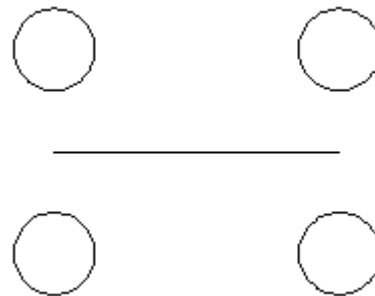
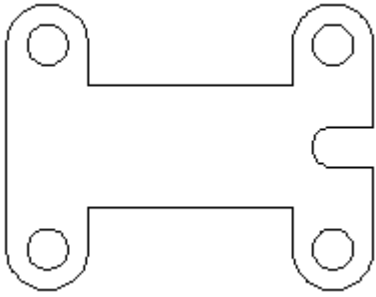

Fig.2
Fig .5
2. Follow the steps in figures 2 through 5 to create the profile as shown in figure 5.